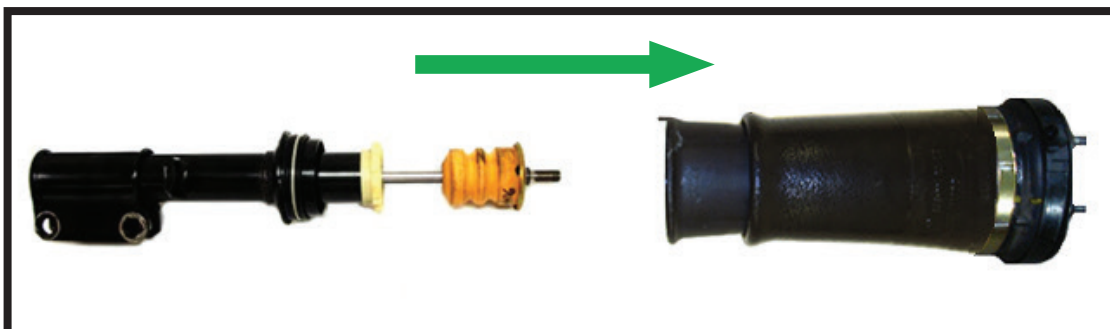

FIGURE 9
3. REMOVE THE AIR SLEEVE ASSEMBLY FROM THE TOP OF THE SHOCK SHAFT AND DISCARD. NOTE THE ORIENTATION OF THE ALIGNMENT PIN TO THE SHOCK BEFORE REMOVAL. (FIGURE 9)